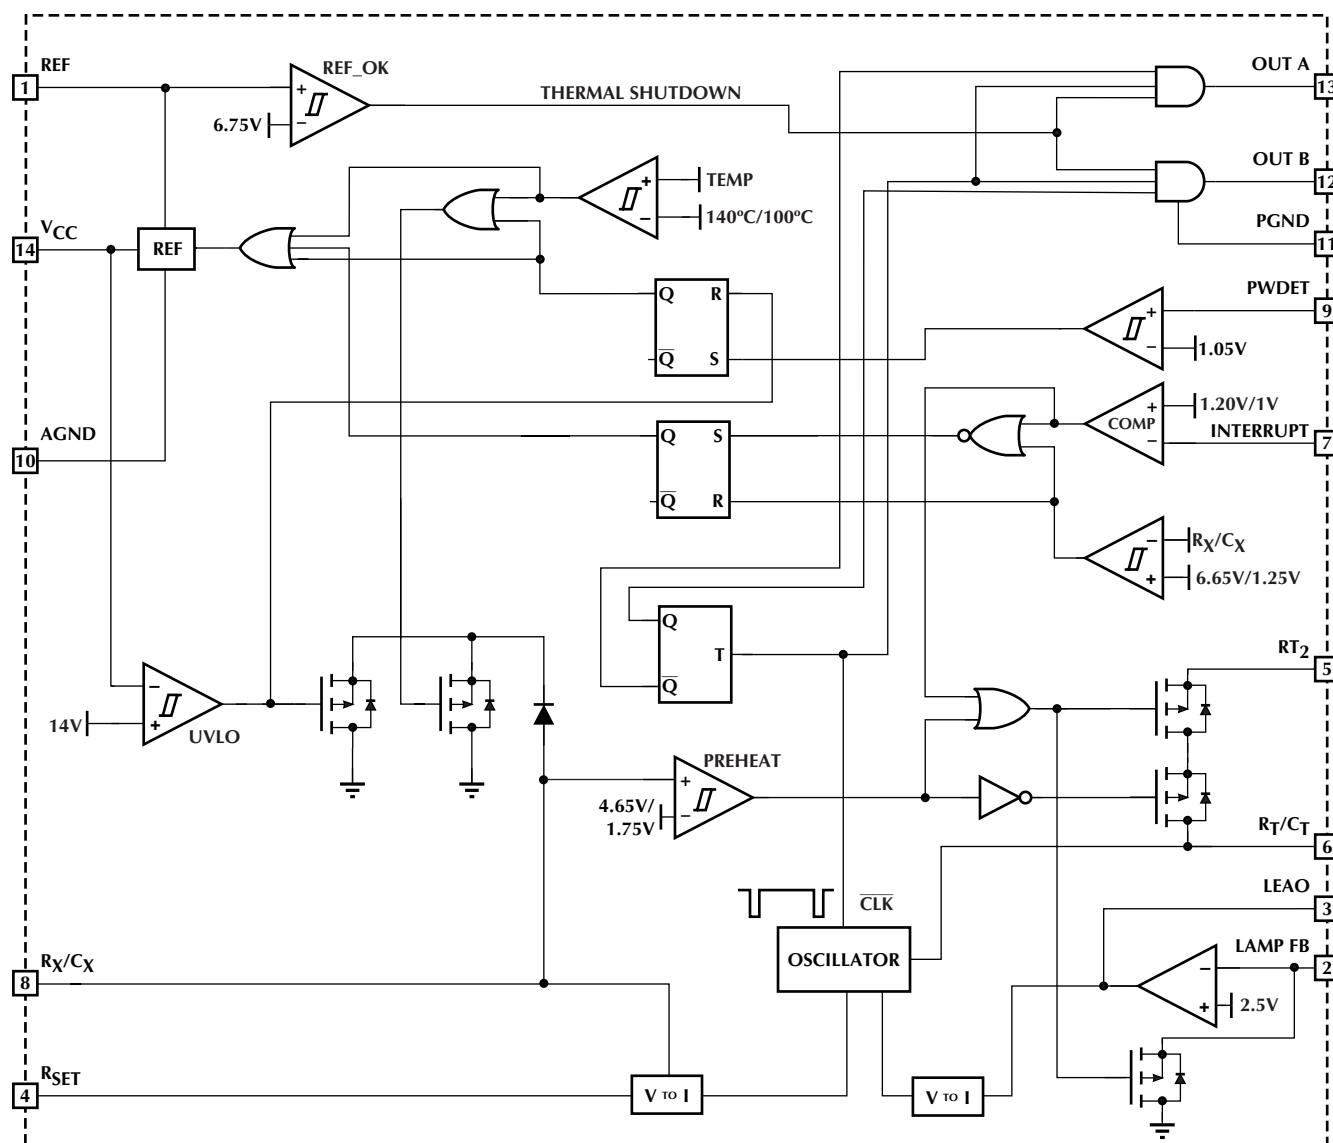

Figure 1. Detailed Block Diagram
The ML4836 consists of flexible ballast control section. Start-up and lamp-out retry timing are controlled by the selection of external timing components, allowing for control of a wide variety of different lamp types. The ballast section controls the lamp power using frequency modulation (FM) with additional programmability provided to adjust the VCO frequency range. This allows for the IC to be used with a variety of different output networks. Figure 1 depicts a detailed block diagram of ML4836.